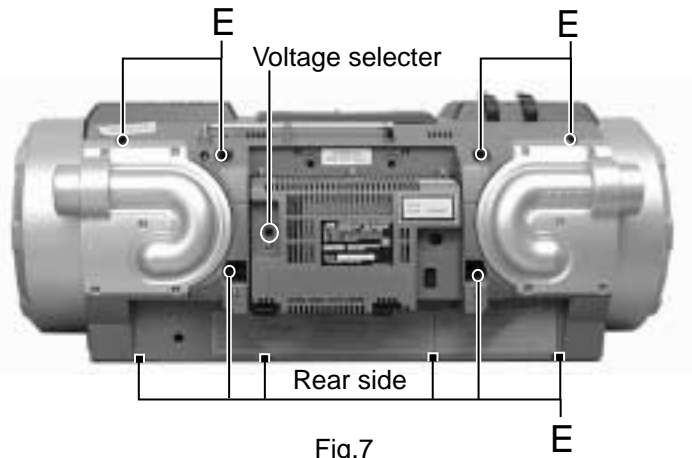

Fig.7
■ Removing the front cabinet and the rear cabinet (See Fig.7 and 8)